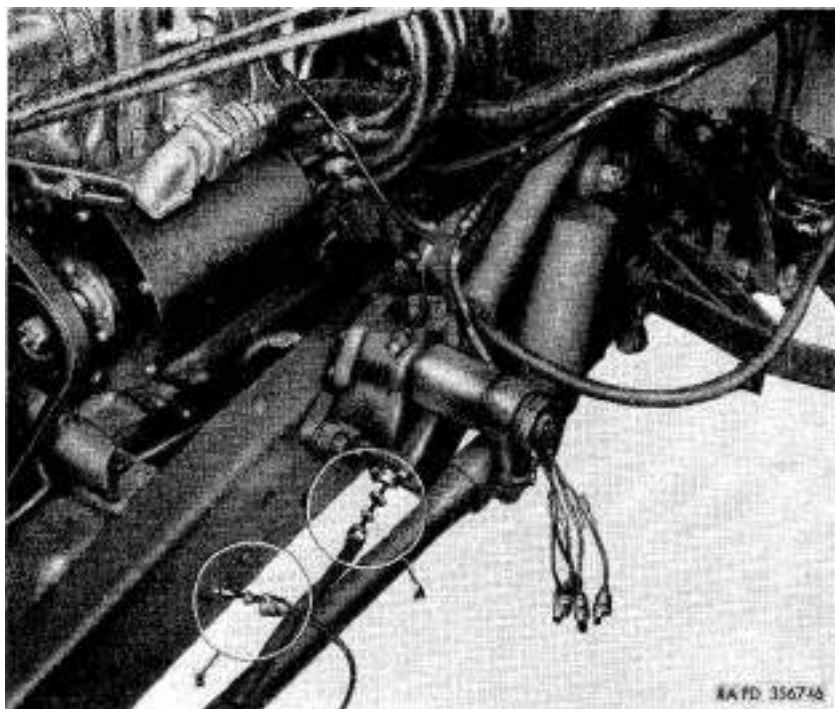

Figure 13. Horn button cable disconnect points.
a. Horn Button and Cable Assembly (fig. 13).
- (1) Withdraw horn button cable from frame. Slide metal bushing from grommet and pull grommet, metal bushing, and connector shell from end of cable (B). Unscrew tube nut (A) from bottom of steering gear and pull horn button cable hose assembly with tube, horn button cable seal plain washer, and horn button cable seal from horn button cable. It may be necessary to pry the rubber seal from the recess in steering gear housing lower seal plate.
- (2) Remove rubber horn button seal from steering wheel. Depress horn button and turn clockwise to disengage it from the horn button lower retaining plate. Pull horn button and cable from steering wheel. Remove horn button retainer plate spring, steering wheel nut, and lower retaining plate.